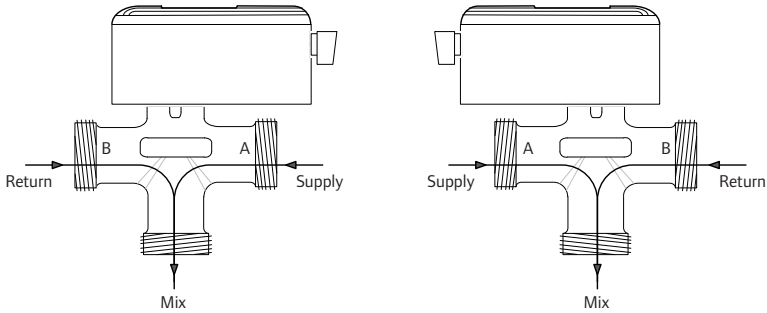

Figure 3: Three-way Mixing Valve Installations
1. The valve body can install in any position and orientation. Install the power connections over the supply port to ensure proper flow direction (see **Figure 3**).